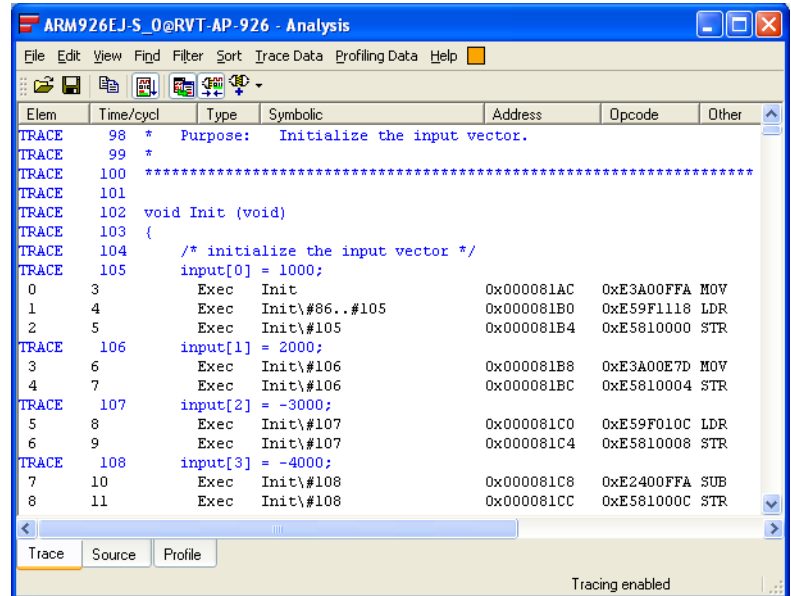

Figure 10-13 Interleaved source in the Trace view
1. Select **Trace Data** → **Interleaved Source** from the Analysis window menu. The trace shows the interleaved source corresponding to the captured trace. Figure 10-13 shows an example: